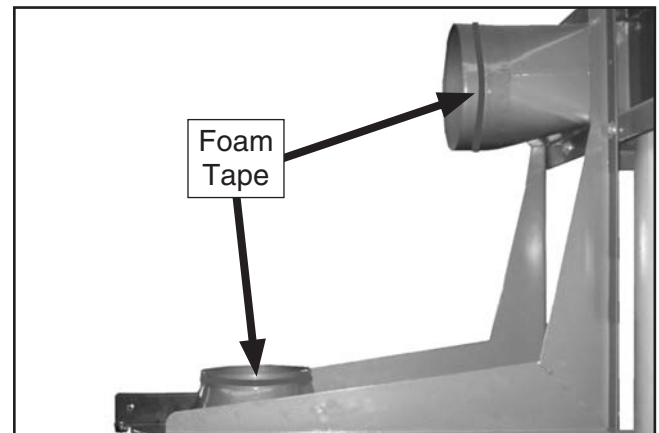

Figure 20. Foam tape applied to the outlet port and canister adapter (Model G0440).
- a. Apply the 3 x 15mm foam tape to the edges of the outlet port and the canister adapter, as shown in **Figure 20**.